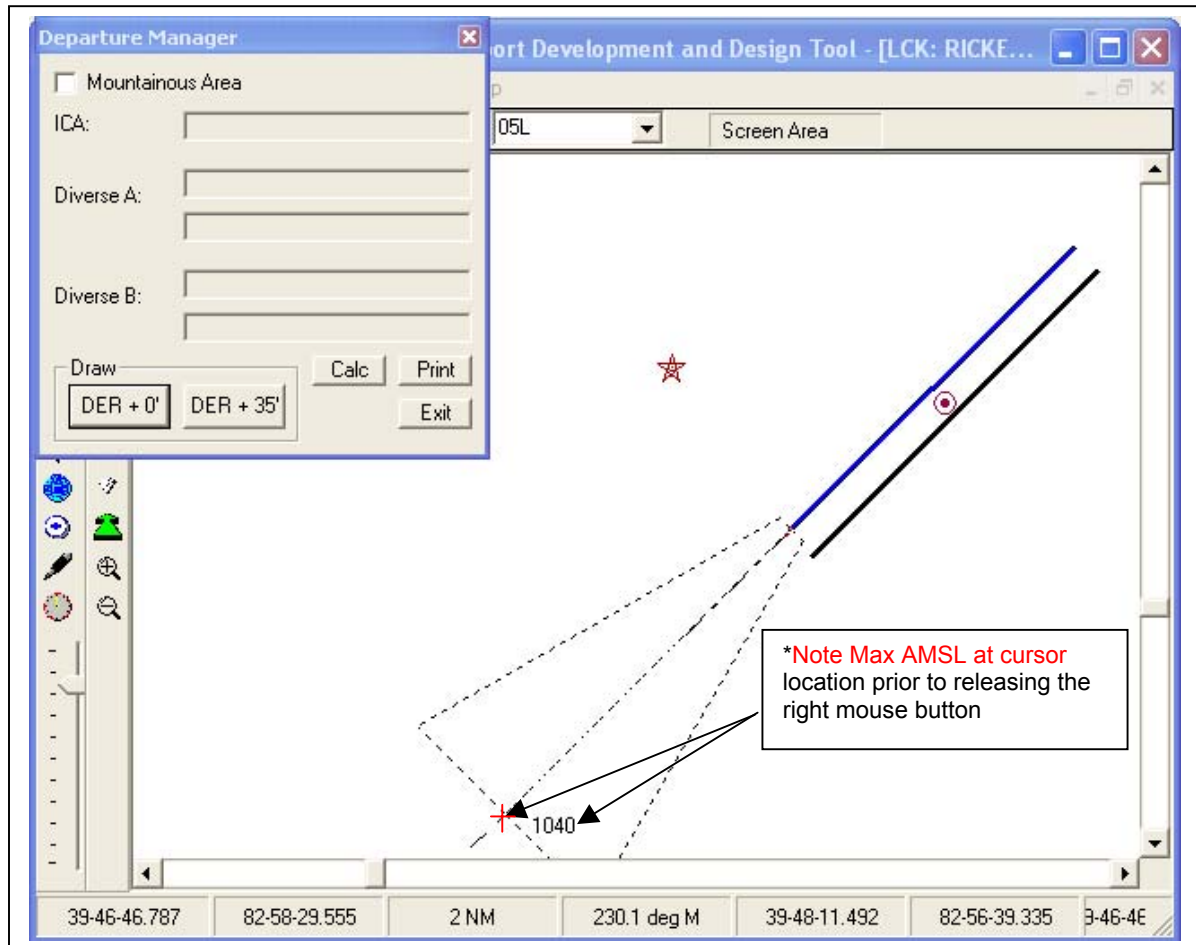

Figure 8-8: Draw Departure Procedure
**NOTE:** Prior to releasing the right mouse button, Note the number displayed (this represents the Maximum AMSL at that point). See Figure 8-8: Draw Departure Procedure below.